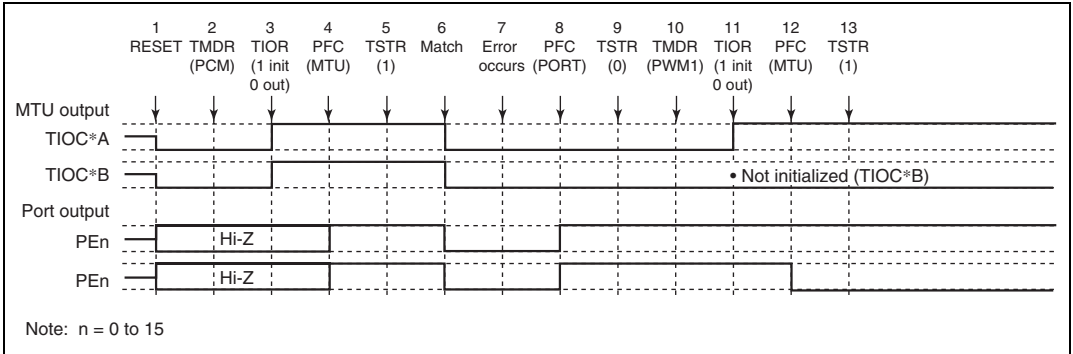

Figure 10.73 Error Occurrence in Phase Counting Mode, Recovery in PWM Mode 1
(14) Operation when Error Occurs during Phase Counting Mode Operation, and Operation is Restarted in PWM Mode 1: Figure 10.73 shows an explanatory diagram of the case where an error occurs in phase counting mode and operation is restarted in PWM mode 1 after re-setting.